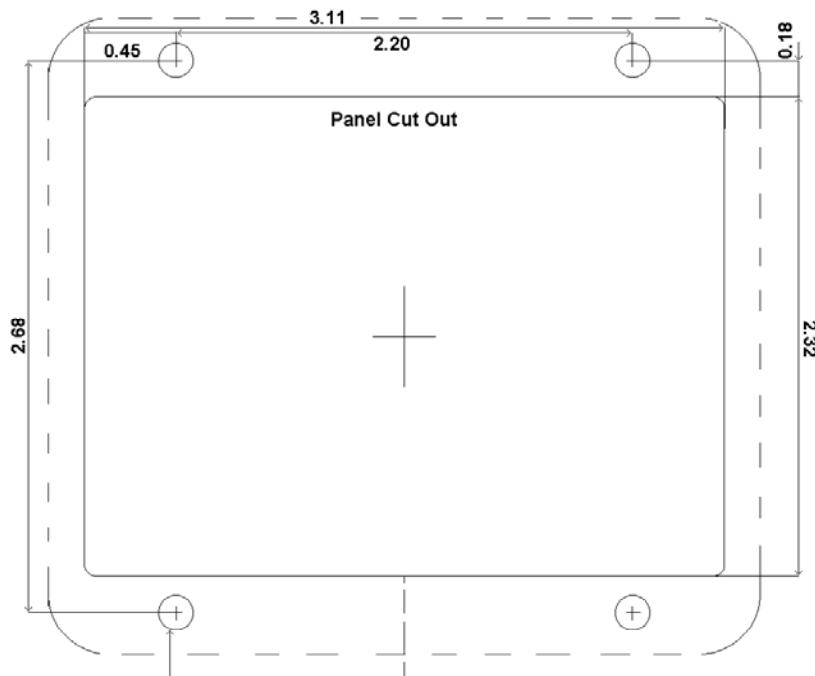

Figure 3: Flush Mount Cutout (dimensions in Inches, not actual size)
14. Cut a hole in the remote operator-mounting panel as shown in Figure 3 for flush mounting.